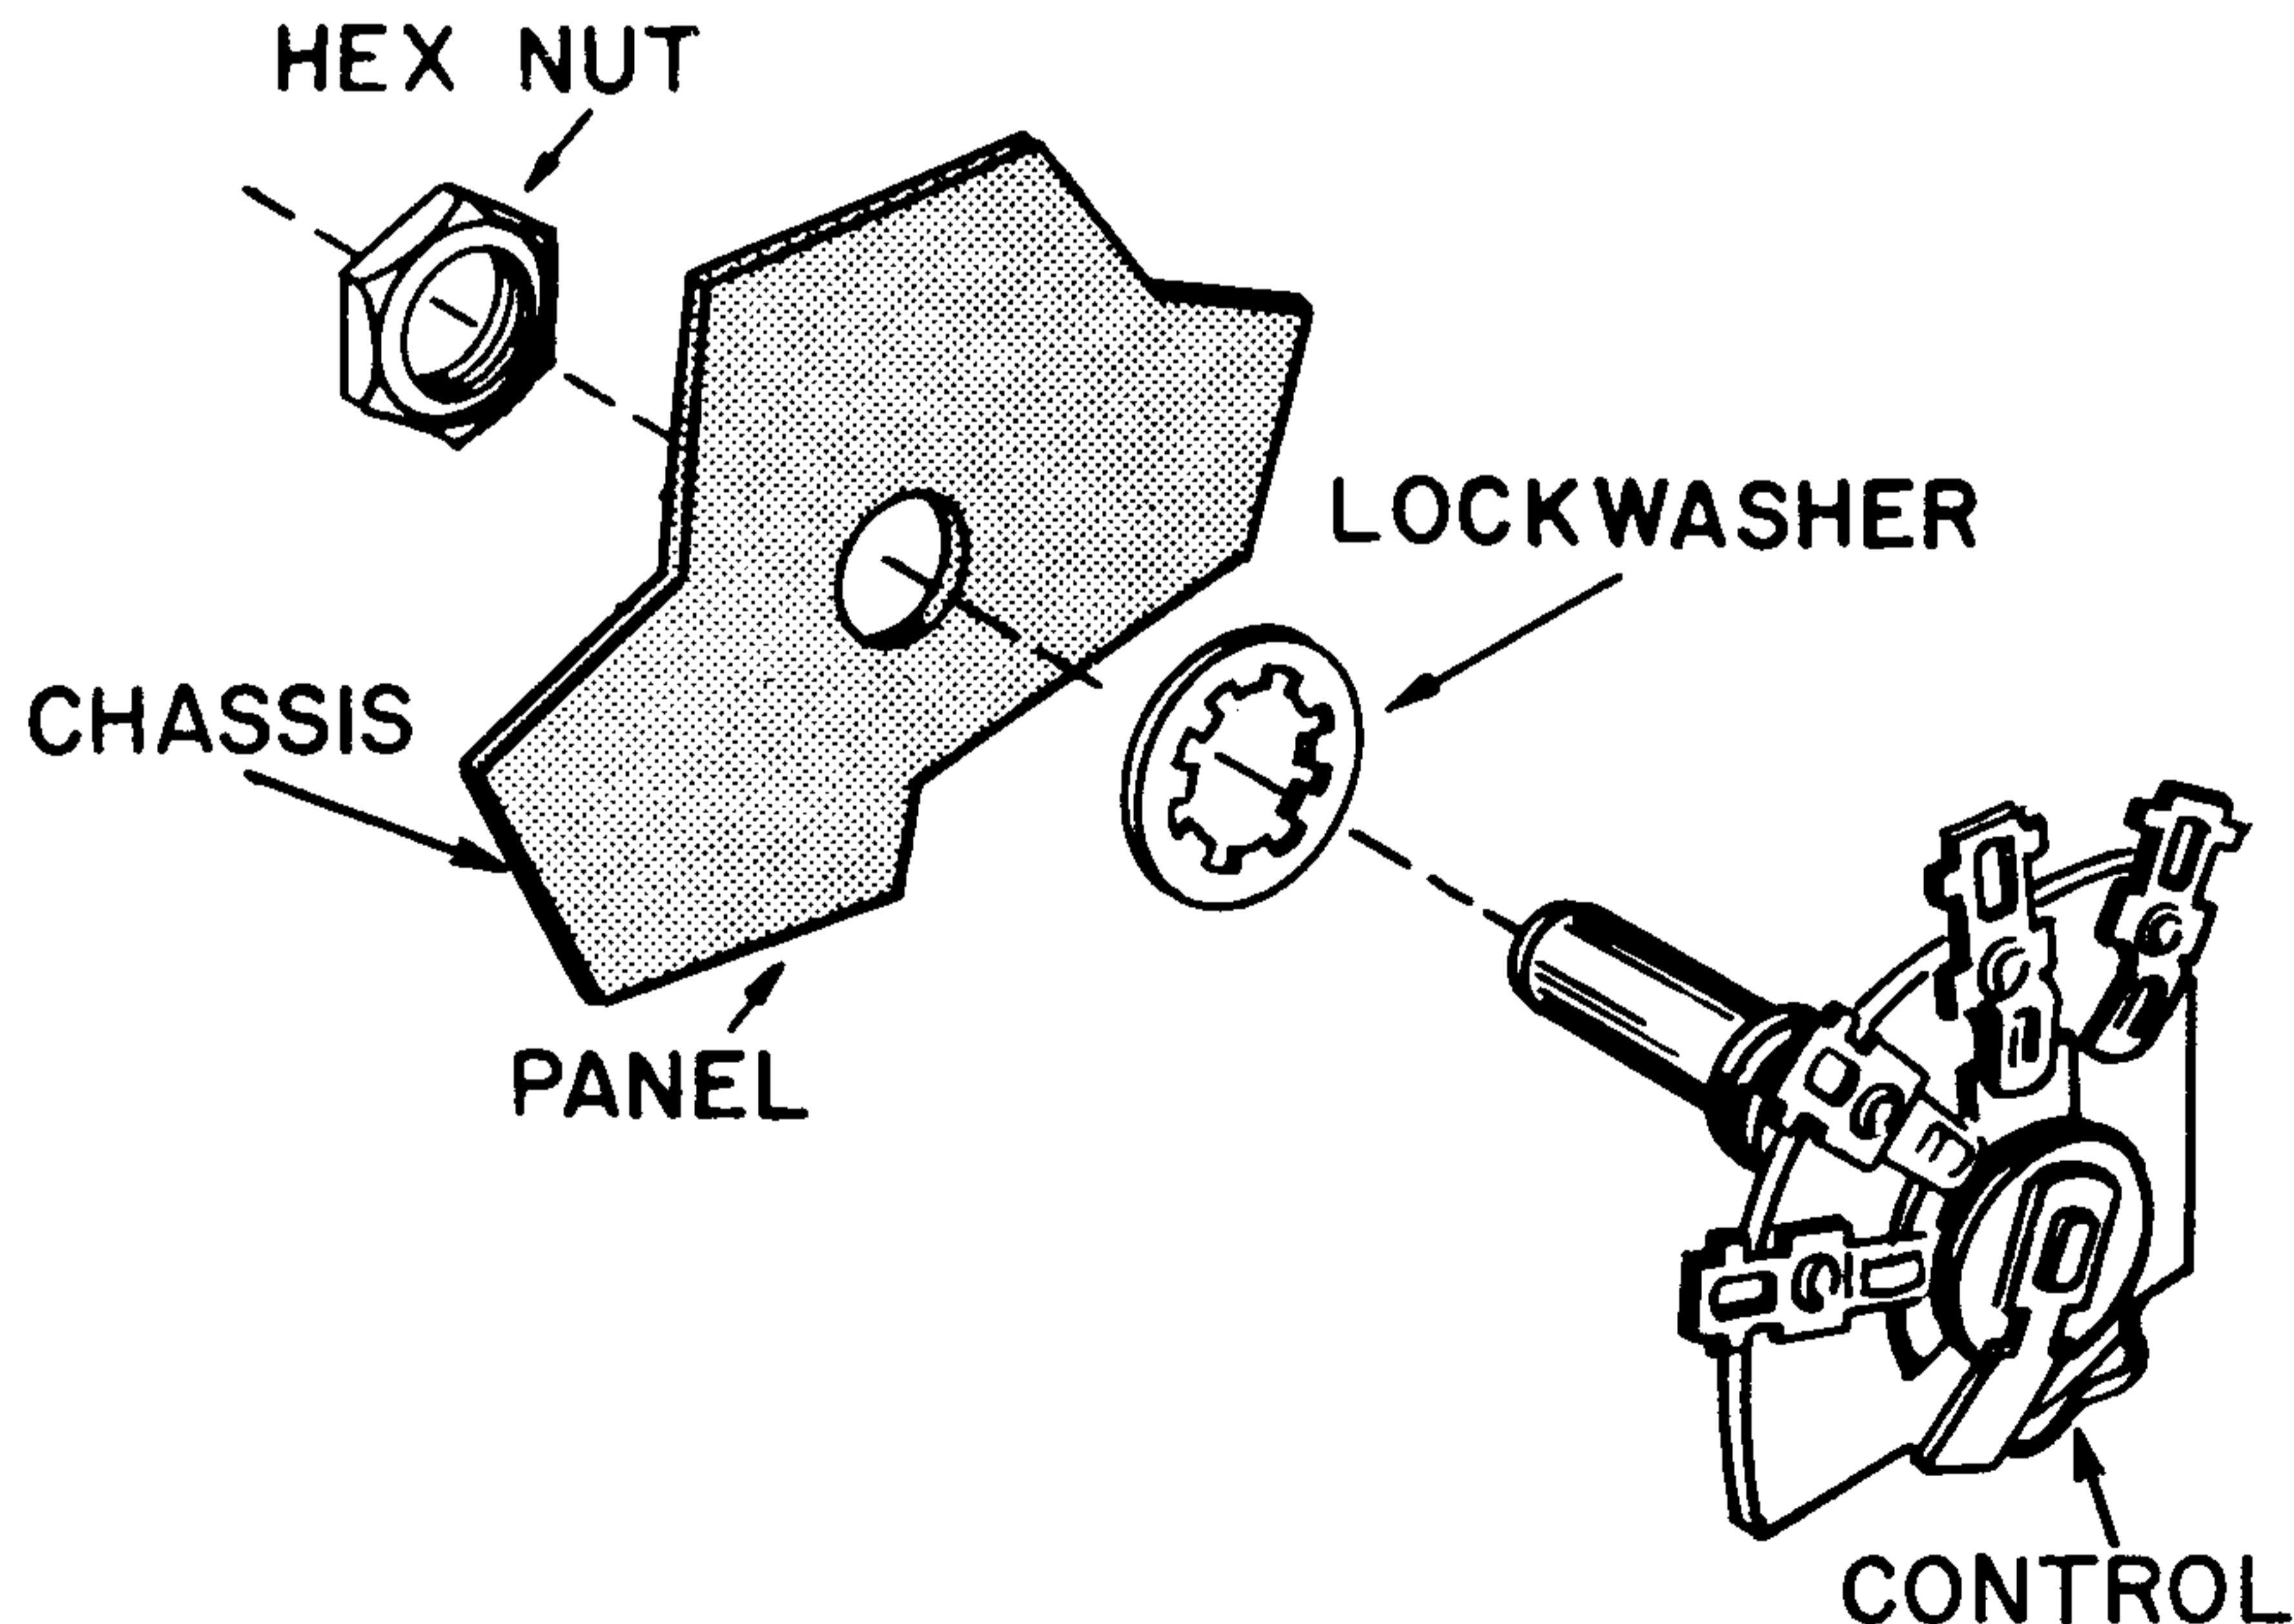

FIGURE 4. HOW TO MOUNT A CONTROL
- From inside the chassis, mount S-3, the BFO-MVC-AVC-ANL switch on the front. Use one 3/8" lockwasher and one nut. See Figure 4. Position the terminals as shown in Figure 3.
- Permanently mount R-2 and S-4 inside the chassis. Use hardware as shown in Figure 4. Carefully route the 9-conductor cable as shown in Figure 11. To protect S-4, do not allow the cable to pull on the switch.